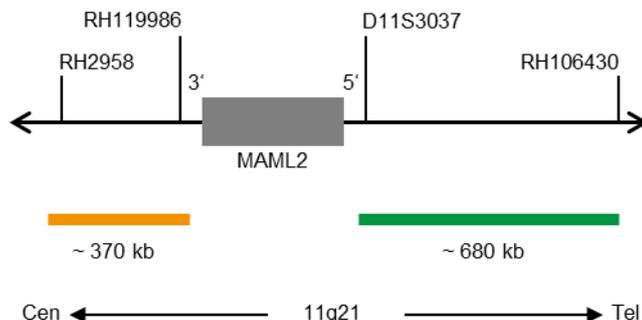

Fig. 1: SPEC MAML2 Probe map (not to scale)
- ZyGreen (excitation 503 nm/emission 528 nm) labeled polynucleotides (~10 ng/ μ l), which target sequences mapping in 11q21* (chr11:96,115,829-96,797,136) distal to the MAML2 breakpoint region (see Fig. 1).
- ZyOrange (excitation 547 nm/emission 572 nm) labeled polynucleotides (~4.5 ng/ μ l), which target sequences mapping in 11q21* (chr11:95,296,828-95,668,215) proximal to the MAML2 breakpoint region (see Fig. 1).